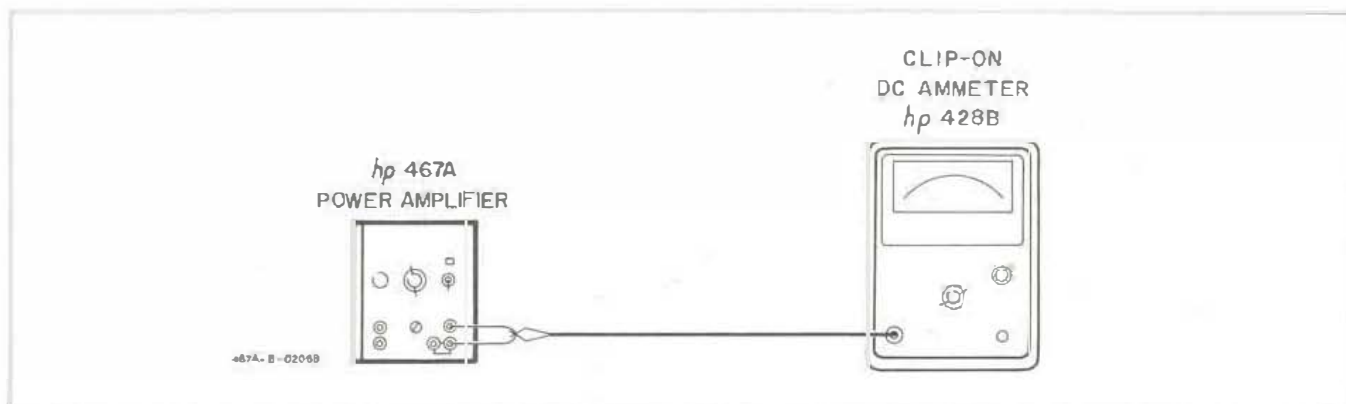

Figure 5-5. Current Limit Check
- Short the 467A output and connect the 428B, set on the 1 A range, as shown in Figure 5-5. As the VOLTS ADJ is varied slowly, the 428B should show an increasing current that is always less than 800 mA.
- Short Model 467A output. Connect dc milliammeter as shown in Figure 5-5. Set dc milliammeter RANGE to 1 A.